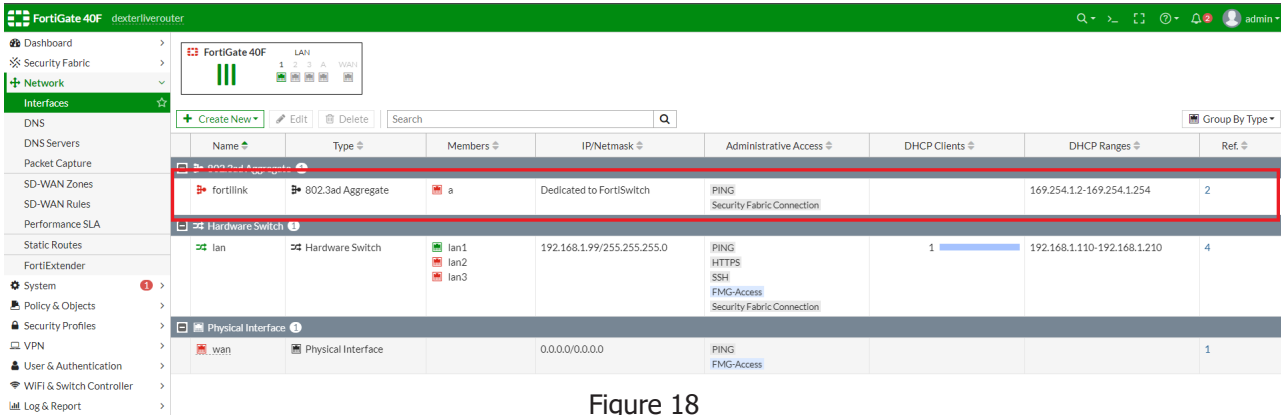

Figure 18
11. Disconnect the fourth port (port A - ) from the fortmlink interface. To do this, navigate to "Network" in the navigation panel, then select "Interfaces." Double click the "fortmlink" interface. (Figure 18)